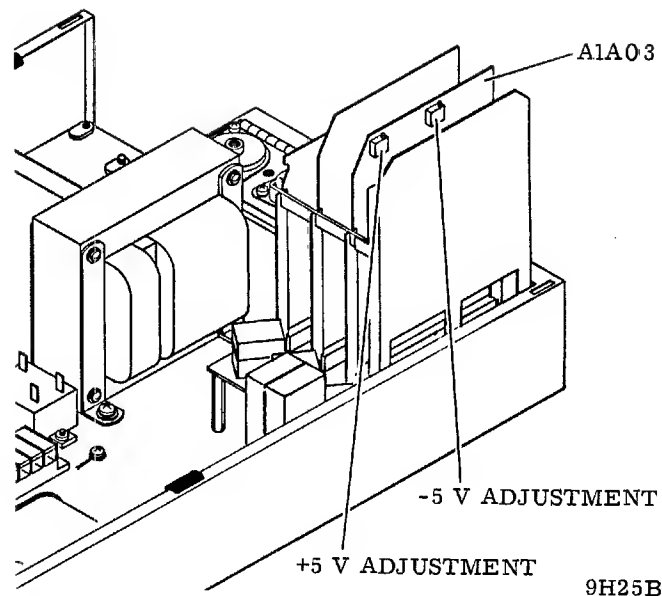

Figure 2-11. Power Supply Adjustment Locations
4. Plus 5-volt output should be from +5.05 to +5.15 volts. If not, adjust +5 V potentiometer on card AlA03 (see figure 2-11) until output is within specification.
6. Minus 5-volt output should be from -5.05 to -5.15 volts. If not, adjust -5 V potentiometer on card AlA03 (see figure 2-11) until output is within specification.